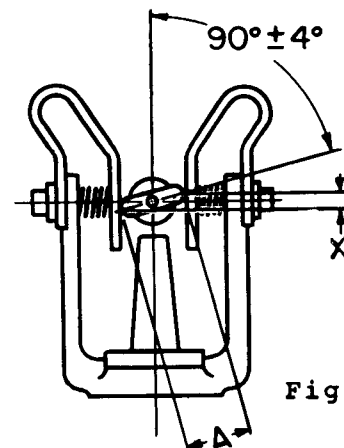

Fig. 1
Fig. 1. shows blade in closed position. The allowable difference in elevation from one side of the blade contact to the other (dimension X) is 1/16" for each 1" of contact width. Example: If contact width (A) is 3" then dimension(X) can be as much as 3/16" and still be within the plus or minus 4° tolerance.
Also, Fig. 1 shows blade contact high on the right and low on the left. The reverse is also acceptable, high on the left and low on the right. It is common to have both situations on one three-pole switch. In fact, after all three poles have been adjusted in the open position, and then closed, you may find one pole will be high on the right, one fairly level and one high on the left. This is due to many variables and tolerances plus the free play or clearance in pin connections of all the switches and control parts.